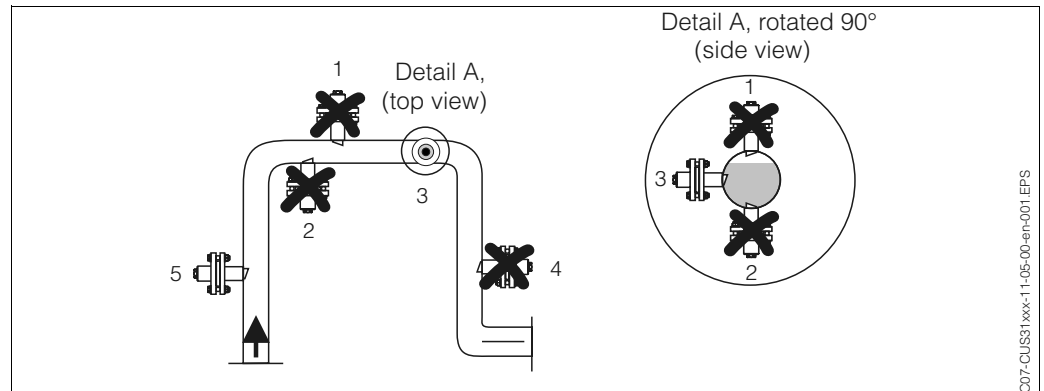

Fig. 6: Orientation and installation positions of CUS 31 with CUA 120-A/B adapter or with CUA 461 retractable assembly
- Install the sensor in places with uniform flow conditions and not in places where air may collect or foam bubbles form (→ Fig. 6, it. 1) or where suspended particles may settle (it. 2).